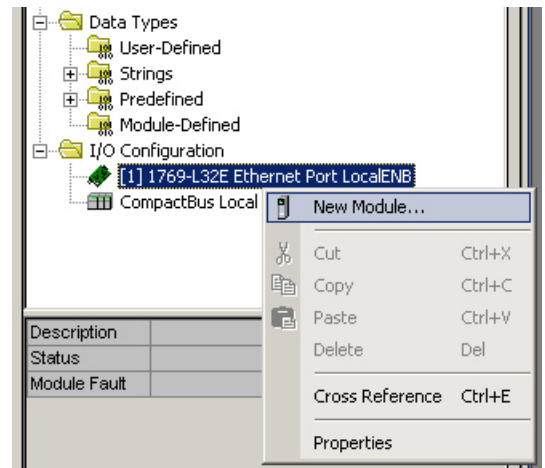

Figure 6.3 Adding an ANG1(E)
- 1) As shown in figure 6.3 on the right, the Ethernet port will be listed under the I/O Configuration tree. Right click on the port and then click on "New Module..." in the pop-up menu.